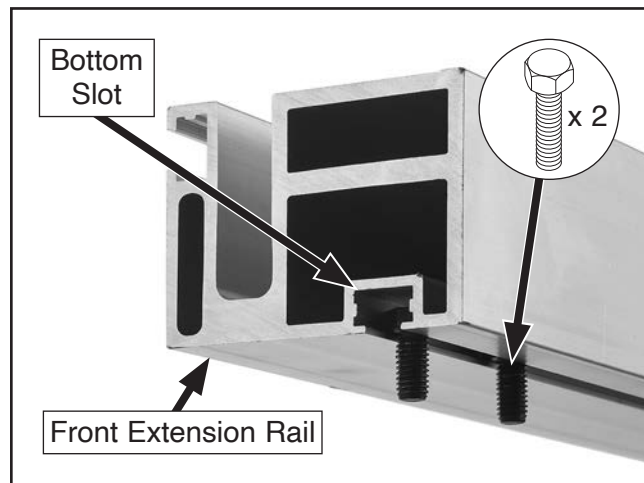

Figure 7. Hex bolts installed in front extension rail for mounting ON/OFF switch.
9. Insert (2) hex bolts removed in **Step 4** into bottom slot on left end of front extension rail (see **Figure 7**).